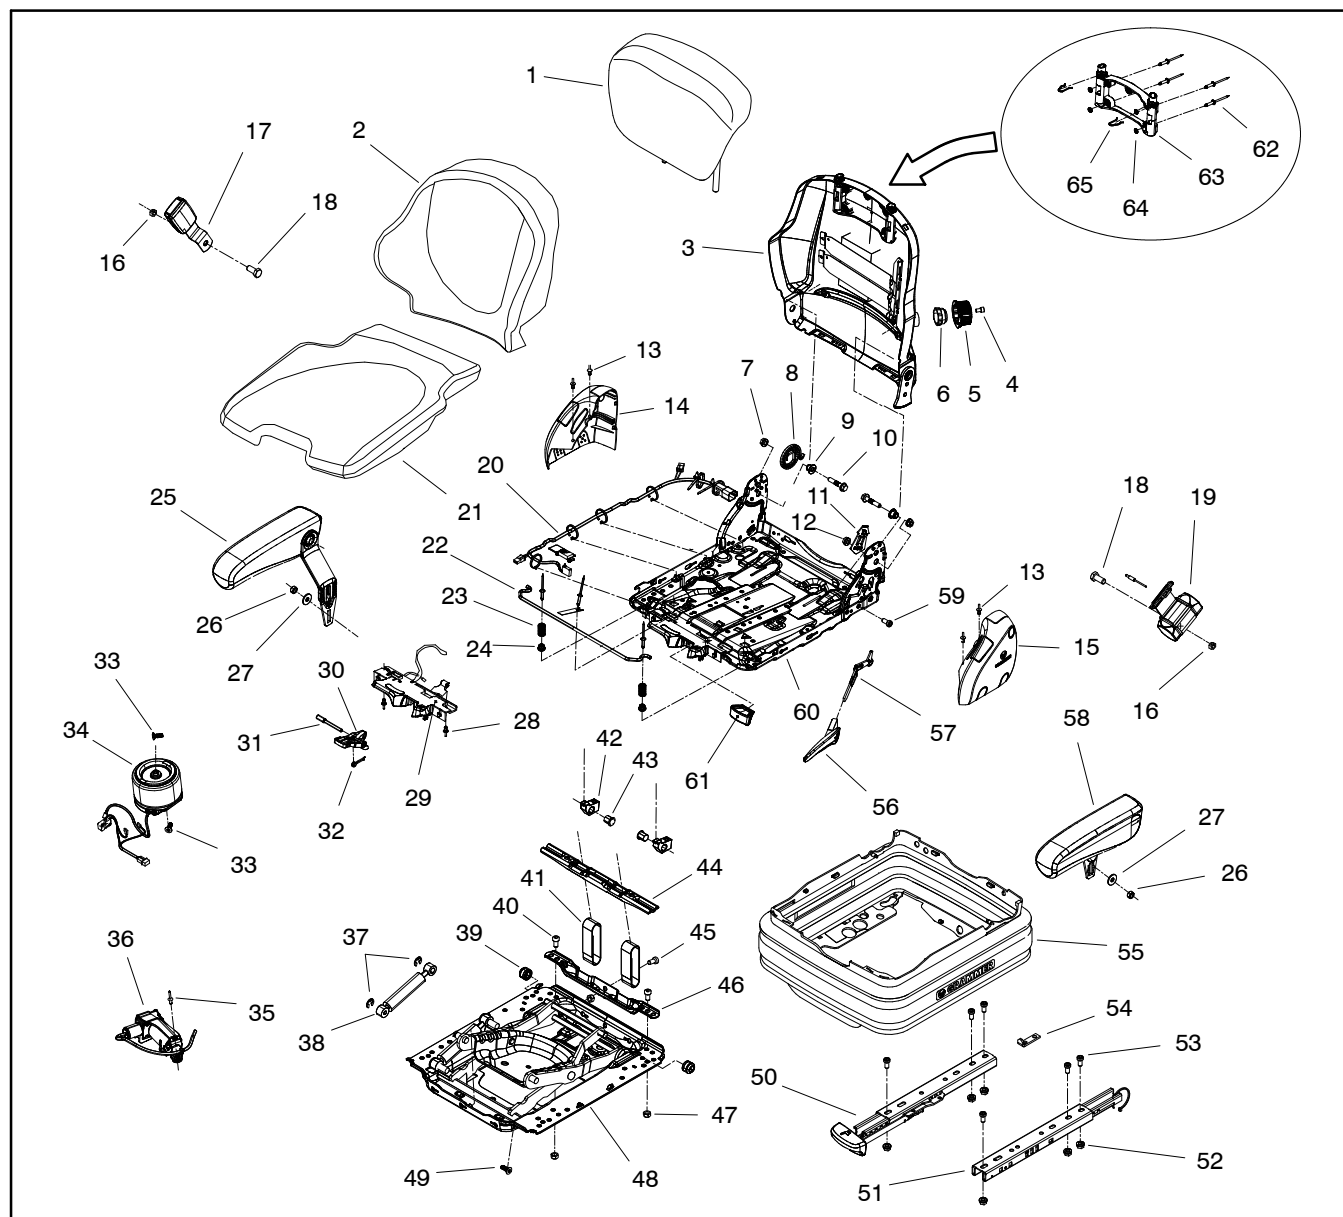

Figure 56
#### **Disassembly (Fig. 56)**
2. Disassemble operator seat as necessary using Figure 56 as a guide.
#### **Assembly (Fig. 56)**
1. Assemble operator seat using Figure 56 as a guide.